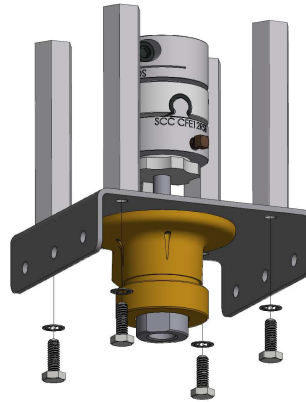

Figure 6: Standoff Installation
- Using the 7/16" wrench and crescent wrench, the (4) 1/4"-20 x 3/4" hex head cap screws, and the (4) 1/4" internal tooth lock washers, fasten the (4) hex standoffs to the valve mounting bracket as shown in Figure 6 below.